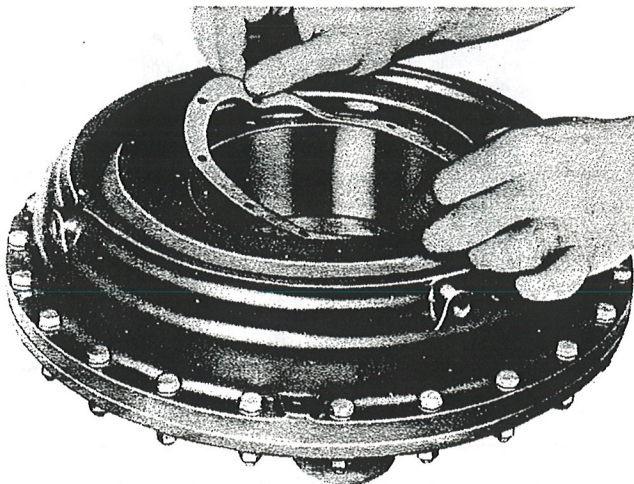

Figure 150—Installing Adapter Gasket
(14) Install the adapter gasket on the pump power gear assembly. (See figure 150.)
(15) Assemble and install the adapter ring as follows: